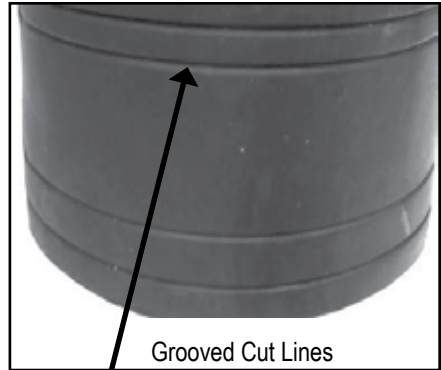

Figure-15
**Cutting:** Using a pair of scissors or other cutting instruments, choose the desired height according to the application to be performed and cut along the grooved cut lines, as shown in Figure-15.